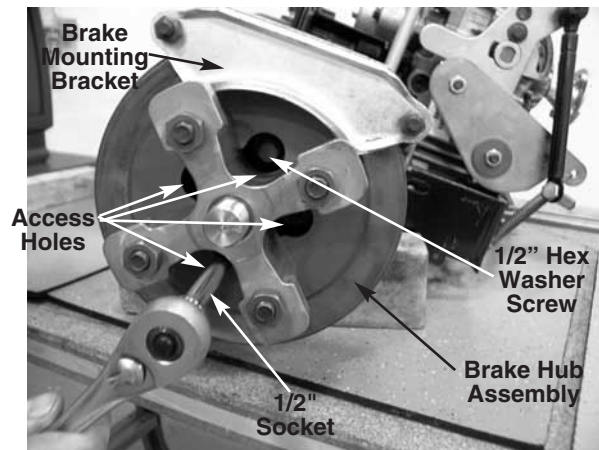

FIGURE 4.
37. Slide both brake hub assemblies over the axle shaft splines. See figure 4.
38. Line up the brake mounting brackets hardware holes with the differential housing notches. See figure 4.
39. Rotate the brake disk until the access holes are directly over the hardware holes. See figure 4.
40. Install all three hex washer screws through the access holes of the brake disk using a 1/2" socket and extension. See figure 4.